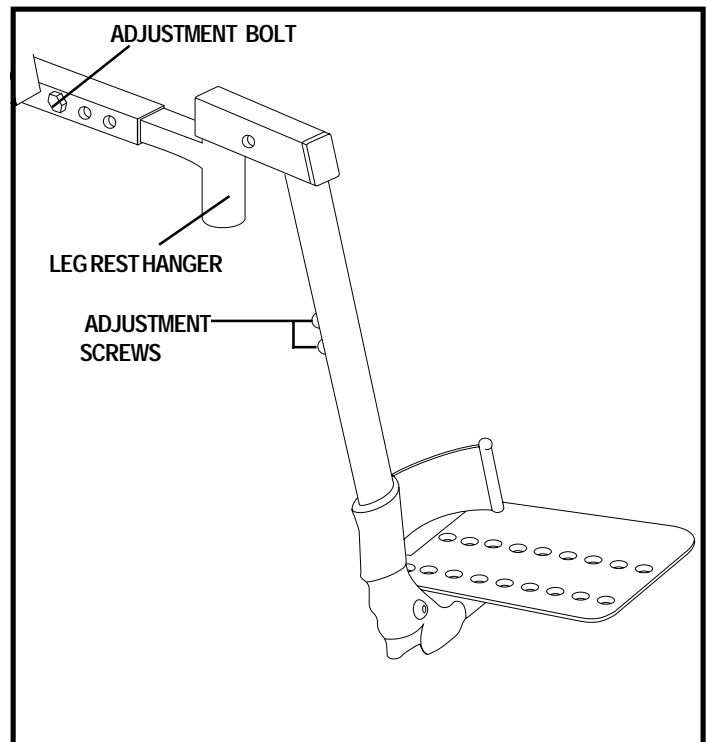

Figure 23. Heavy Duty Drop-In Leg Rests
You can adjust the forward/back position, as well as the length of the heavy duty drop-in leg rests. See figure 23.
1. Remove the adjustment bolts from the side rails. See figure 23.